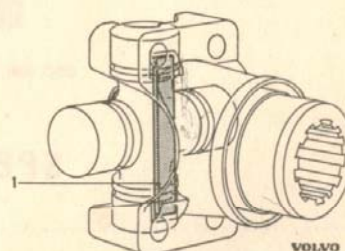

Fig. 4-9. Fitting the needle bearings
NOTE. When re-assembling make sure that the band (1, Fig. 4-9) on the rear universal joint is correctly positioned in the recess for it on the flange.
**NOTE.** When fitting be very careful to ensure that the bands on the forward and rear universal joints are correctly positioned in the recesses on the flanges in question, see Fig. 4-9. Tighten the nuts on the clamp to a torque of 1.4–1.65 kgm (10–12 lb.ft.).
Metal band for needle bearings on forward or rear universal joints wrongly fitted.	Fit the band correctly. See Fig. 4-9.